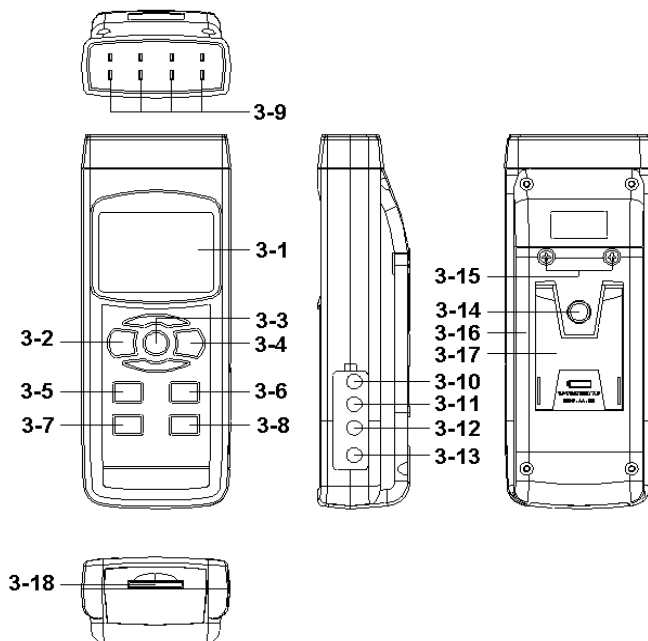

Fig. 1
1) Power on the meter by pressing the " Power button " (3-2, Fig. 1) once.
3) Insert the Type K probes into the " T1, T2, T3, T4 input socket " (3-9, Fig. 1).
All the measuring procedures are same as the Type K (section 4-1) except to select the Temp. Sensor type to " Type J/K/T/E/R/S " by pressing the " Type Button " (3-5, Fig. 1) once in sequence until the up LCD display show " J/T/E/R/S " indicator.
- 1) All the measuring procedures are same as the Type K (section 4-1) except to select the Temp. Sensor type to " Pt " by pressing the " Type Button " (3-5, Fig. 1) once in sequence until the right down LCD display show " Pt " text as :
PT1 input socket (3-10, Fig. 1)
PT2 input socket (3-11, Fig. 1)
Pressing the " T1-T2 button " (3-6, Fig. 1), display will show the difference temperature value between T1, T2 (PT1, PT2) as :
During the measurement, press the " Hold Button " (3-3, Fig. 1) once will hold the measured value & the LCD will display a " HOLD " symbol.
- 1) The data record function records the maximum and minimum readings. Press the " REC Button " (3-4, Fig. 1) once to start the Data Record function and there will be a " REC " symbol on the display.
- a) Press the " REC Button " (3-4, Fig. 1) once, the " REC MAX " symbol along with the maximum value will appear on the display.
If intend to delete the maximum value, just press the " Hold Button " (3-3, Fig. 1) once, the display will show the " REC " symbol only & execute the memory function continuously.
- b) Press the " REC Button " (3-4, Fig. 1) again, the " REC MIN " symbol along with the minimum value will appear on the display.
If intend to delete the minimum value, just press the " Hold Button " (3-3, Fig. 1) once, the display will show the " REC " symbol only & execute the memory function continuously.
After power ON, the " LCD Backlight " will light automatically. During the measurement, press the " Backlight Button " (3-2, Fig. 1) once will turn OFF the " LCD Backlight " .
Prepare a " SD memory card " (1 GB to 16 GB, optional), insert the SD card into the " SD card socket " (3-18, Fig. 1). The front panel of the SD card should face against the down case.
Press the " REC Button (3-4, Fig. 1) once , the LCD will show the text " REC " , then press the " Logger Button " (3-8, Fig. 1) , the " REC " will flashing and beeper will sound, at the same time the measuring data along the time information will be saved into the memory circuit.
During execute the Datalogger function , if press the " Logger Button " (3-8, Fig. 1) once will pause the Datalogger function (stop to save the measuring data into the memory circuit temporally). In the same time the text of " REC " will stop flashing.
If press the " Logger Button " (3-8, Fig. 1) once again will execute the Datalogger again, the text of " REC " will flashing .
During pause the Datalogger, press the " REC Button " (3-4, Fig. 1) continuously at least two seconds, the " REC " indicator will be disappeared and finish the Datalogger.
Press the " REC Button (3-4, Fig. 1) once , the LCD will show the text " REC " , then press the " Logger Button " (3-8, Fig. 1) once, the " REC " will flashing once and Beeper will sound once, at the same time the measuring data along the time information and the Position no. will be saved into the memory circuit.
- * During execute the Manual Datalogger, use the " ▲ Button " (3-5, Fig. 1) or " ▼ Button " (3-6, Fig. 1) to set the measuring position (1 to 99, for example room 1 to room 99) to identify the measurement location.*
Press the " REC Button " (3-4, Fig. 1) continuously at least two seconds, the " REC " indication will be disappeared and finish the Datalogger.
During the normal measurement (not execute the Datalogger), If press " Time check Button " (3-7, Fig. 1) once , the lower LCD display will present the time information of Year/Month, Date/Hour, Minute/Second.
During the normal measurement (not execute the Datalogger), If press " Sampling Button " (3-8, Fig. 1) once , the lower LCD display will present the Sampling time information in second unit.